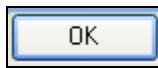

Figure 33.3.10
- Once you have edited the information click on the **OK** button to save any changes that were made (Figure 33.3.10).